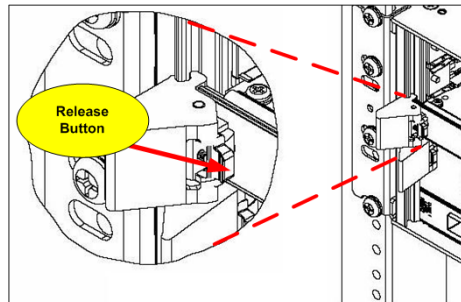

Figure 8. Latch in the Out Position (Release Button has been Engaged)
3. Press the release button on the inside of the latches and push the latches out. (Refer to Figure 8.)
3. Press the release buttons on the inside of the latches and push the latches out. (Refer to Figure 8.)
4. Press the release button on the inside of the latch and push the latch out. (Refer to Figure 8.)